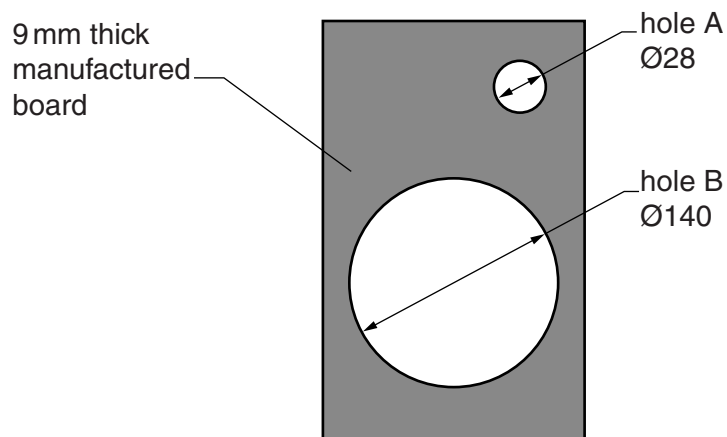

Fig. 3
- (c) Fig. 3 shows the front panel of the speaker cabinet.